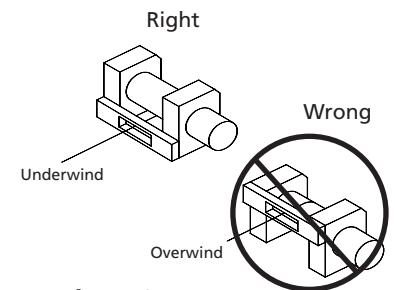

Figure 6
28. Always operate your winch in an underwound orientation only. (Figure 6)